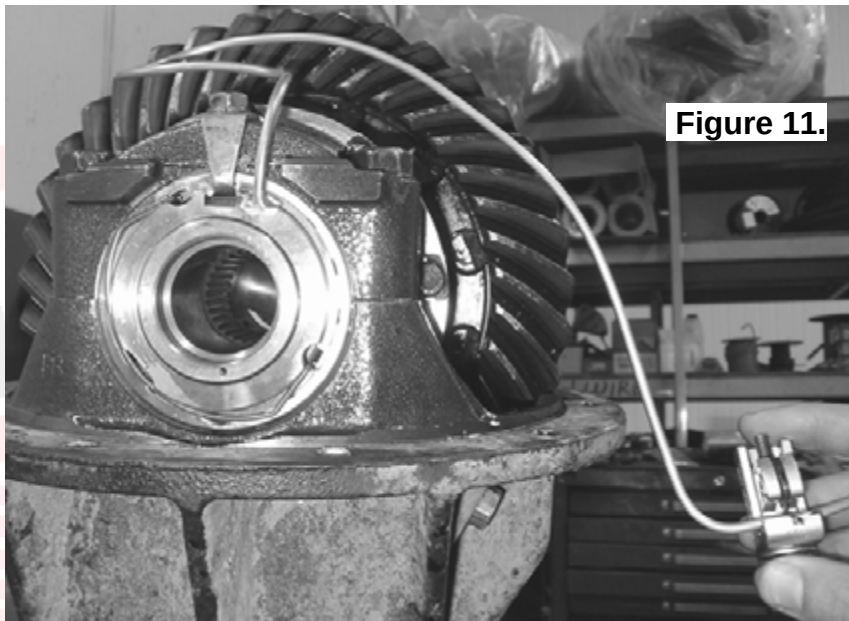

Figure 11.
- ☐ Without using sharp, jagged tools such as pliers (your hands are the best tool for this job), bend the seal housing tube on the outside of the housing to approximate the finished profile. This will allow the tube to be trimmed to a length that would allow it to protrude from the bulkhead fitting. (See Fig. 11.) .